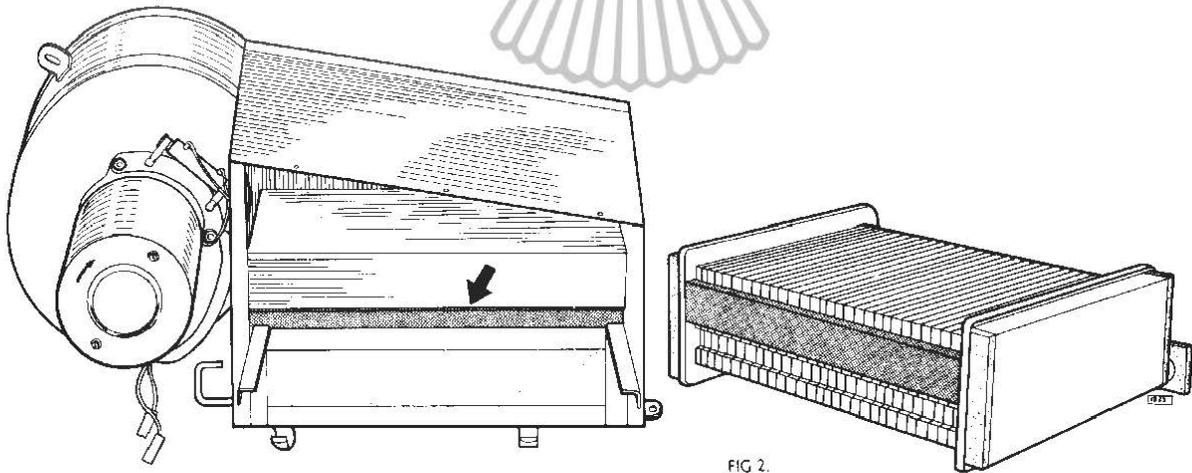

FIG 2.
3. Remove the end cover plate (11 screws) and affix a piece of polyurathene (Part number C.17408) to seal the gap adjacent to the upper flange hinge (see Fig.2.)